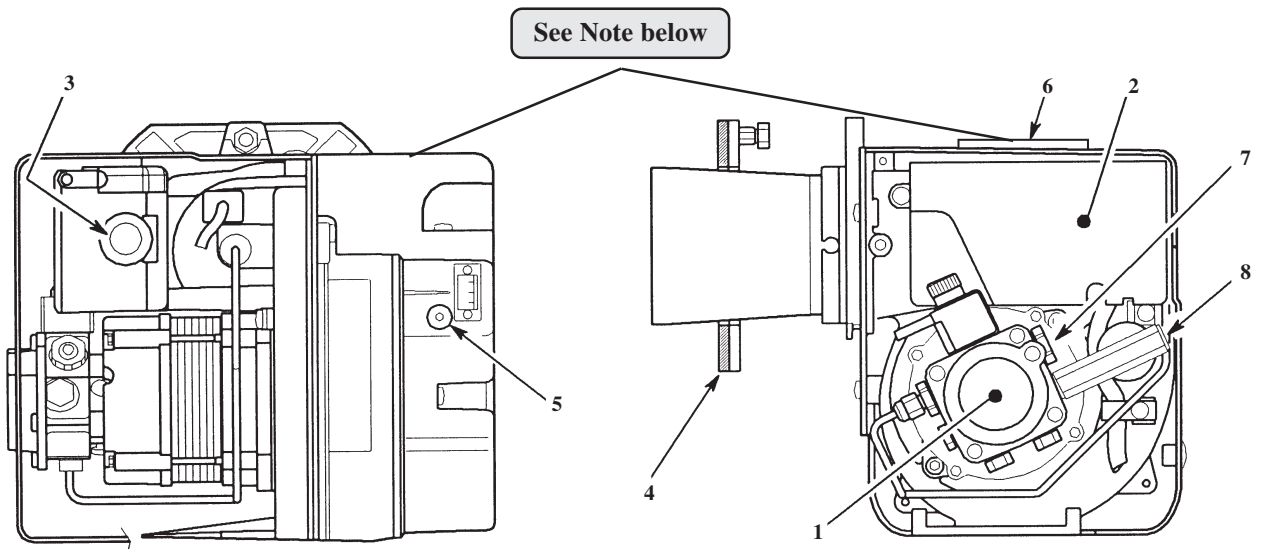

Fig. 16 - RDB burner components
- 5 Connect a combined vent manifold and pressure gauge to the pressure gauge connection port on the oil pump. See Fig. 16. Open the vent screw on your vent manifold to vent the supply while the pump is running.
- 8 With the burner alight, check the fuel pressure. Refer to the Technical Information, Section 3.3. Adjust the pressure if necessary - see Fig. 16.
Use the hexagonal key supplied to adjust the burner air damper (see Fig. 16) as required. Turning the screw anti-clockwise closes the damper and increases CO₂ level, turning the screw clockwise opens the damper and reduces CO₂ level. Re-check the smoke number if the damper has been moved. Under no circumstances must the smoke number be above 1.